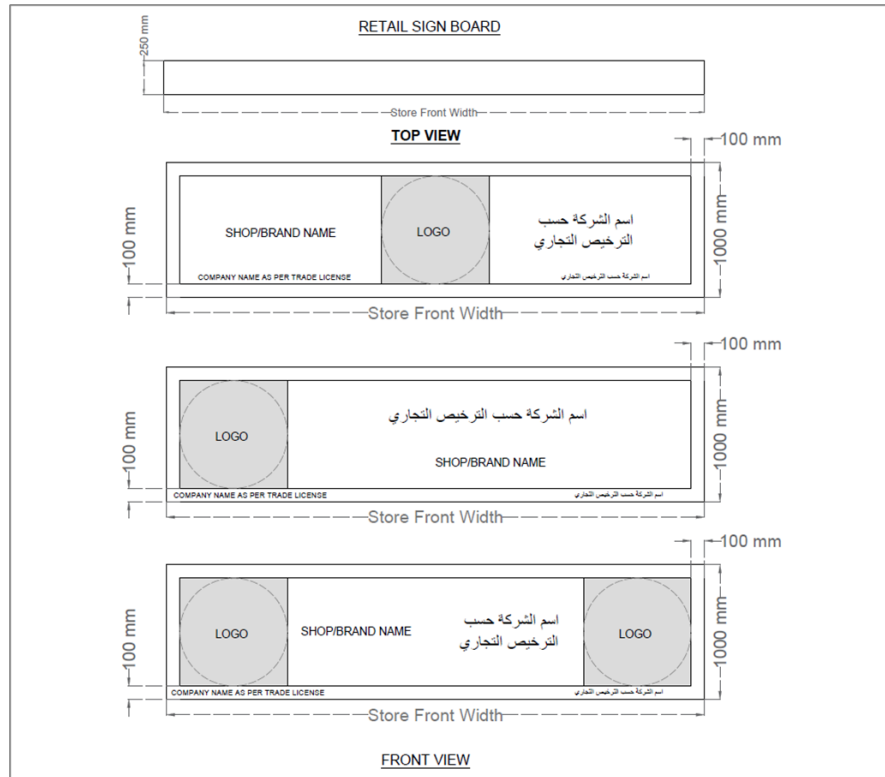

Fig. 4: Retail Signboard Sample
- The display should contain the company name as per the license, in both English and Arabic, alongside the company logo. The client may also include their brand name or shop name in a similar manner to the example (Fig.4) shown below.